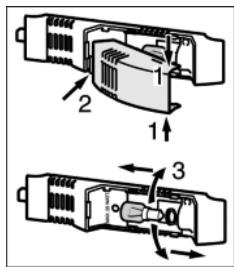

Fig. 16
- Take hold of the lamp cover at the top and bottom Fig. 16 (1).
- Disengage the lamp cover at the back and detach it Fig. 16 (2).
- Replace the lamp Fig. 16 (3).